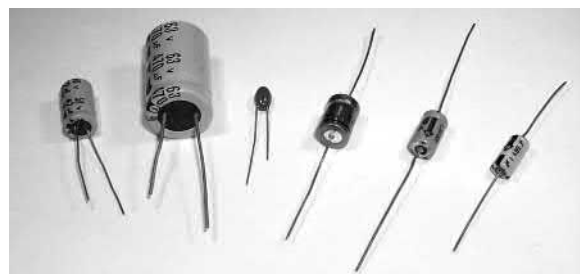

Figure 8.22
7. **Electrolytic capacitors.** Construction is similar to the paper capacitor, with aluminium foil used for the plates and with a thick absorbent material, such as paper, impregnated with an electrolyte (ammonium borate) separating the plates. The finished capacitor is usually assembled in an aluminium container and hermetically sealed. Its operation depends on the formation of a thin aluminium oxide layer on the positive plate by electrolytic action when a suitable direct potential is maintained between the plates. This oxide layer is very thin and forms the dielectric. (The absorbent paper between the plates is a conductor and does not act as a dielectric.) Such capacitors **must always be used on d.c.** and must be connected with the correct polarity; if this is not done the capacitor will be destroyed since the oxide layer will be destroyed. Electrolytic capacitors are manufactured with working voltage from 6V to 600V, although accuracy is generally not very high. These capacitors possess a much larger capacitance than other types of capacitors of similar dimensions due to the oxide film being only a few microns thick. The fact that they can be used only on d.c. supplies limits their usefulness. Some typical electrolytic capacitors are shown in Fig. 8.22.